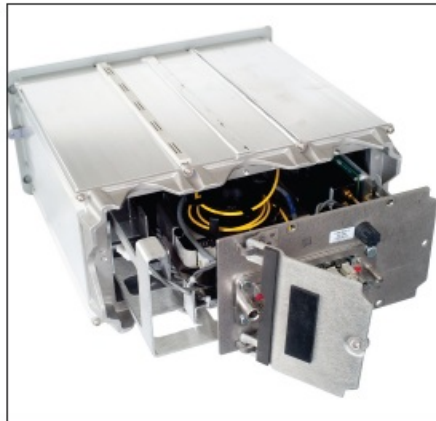

Figure 5. Removing the radio tray assembly.
3. Step 3. Slide the radio tray out of the communication module. See Figure 5.